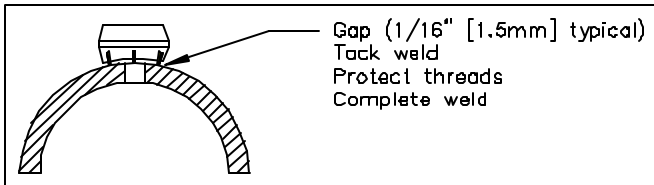

Figure 3. Weld Gap
- Using the appropriate weld gap (1/16" [1.5mm] typical), tack weld the threadolet into position (Figure 3). Assemble the support plug into the threadolet (hand tight) and tack weld the opposite end threadolet into position, using the tip of the sensor for alignment.